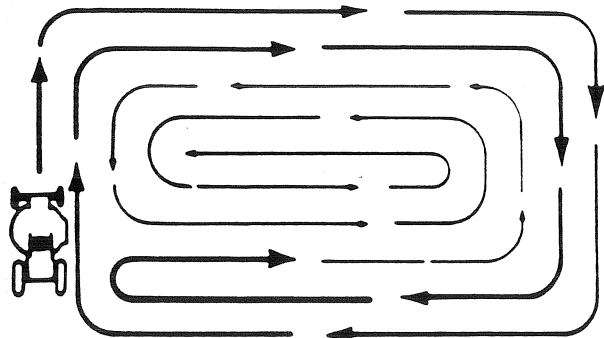
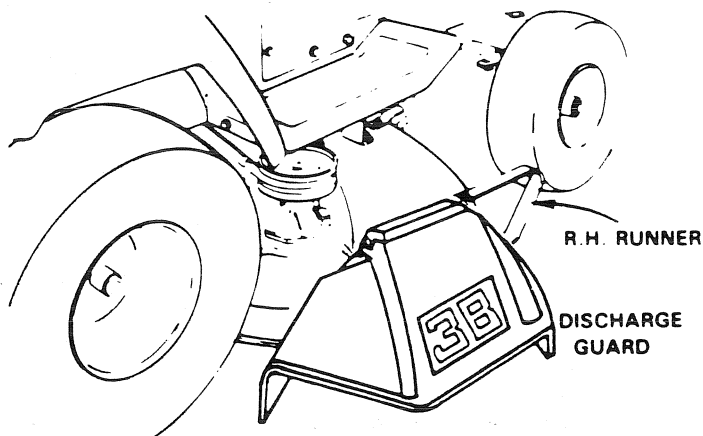

FIGURE 38
FIGURE 39
6. Drive so that clippings are discharged onto the area that has been cut. Have the cut area to the right of the machine. This will result in a more even distribution of clippings and more uniform cutting. When mowing large areas (Fig. 38) start by turning to the right so that the clippings will be discharged away from shrubs, fences, driveways, etc. After *one* or *two* rounds, mow in the opposite direction making left hand turns until finished. If grass is extremely tall, it should be mowed twice. The first time cut relatively high. The second time to the desired height. The left hand side of mower should be used for trimming. Use the Runner on the right hand side as guide; the blade cuts approximately an inch outside the runner (Fig. 39).
Your mower has a flip-up Discharge Guard (Fig. 39) for door or gate clearance when held in raised position.